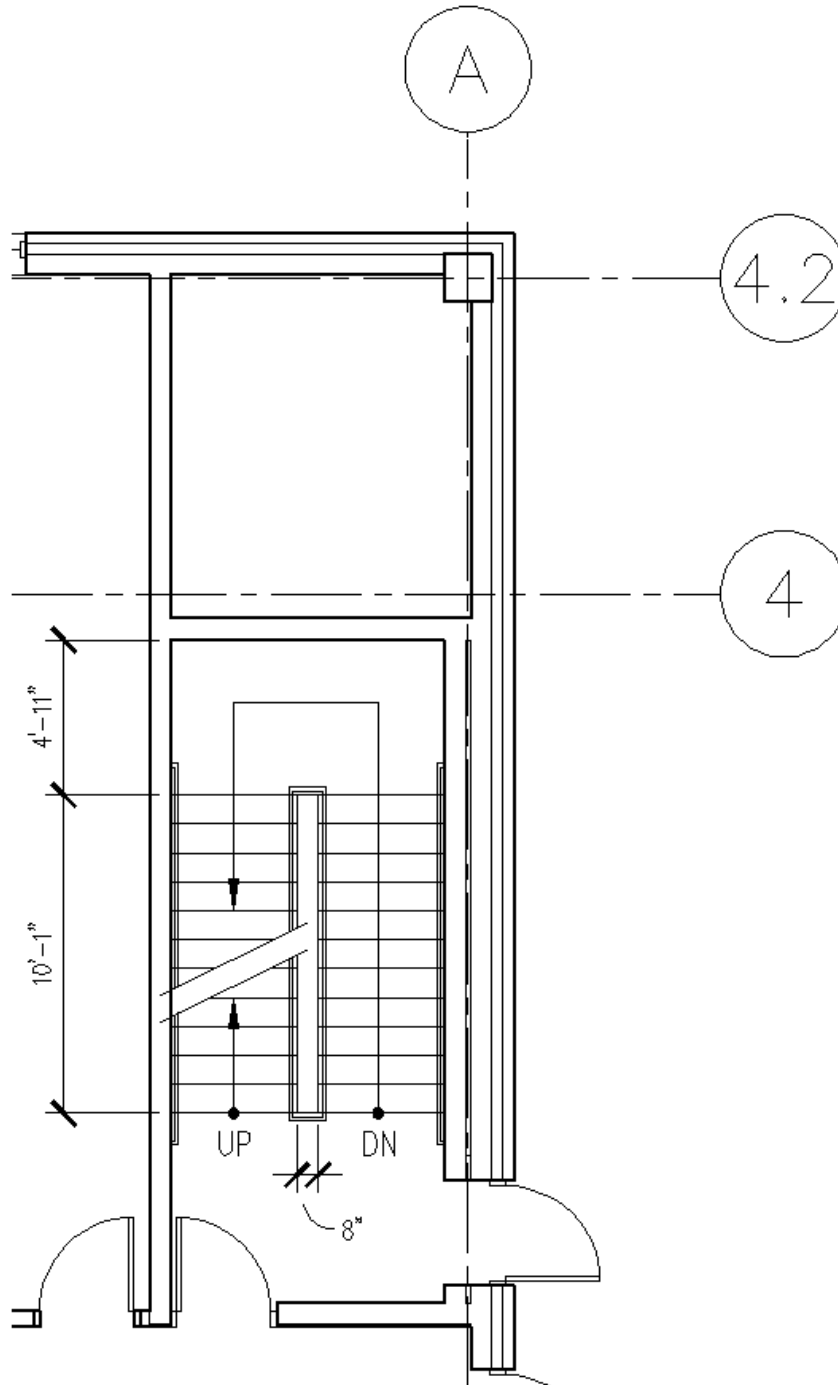

Figure 4-3.15 East utility stair shaft
32. Following the same instructions as the previous step, draw the east stair per **Figure 4-3.15**, plus
Notice in Figure 4-3.15 that the angled break lines help to delineate both the *up run* and the *down run*, which would otherwise overlap and be confusing.